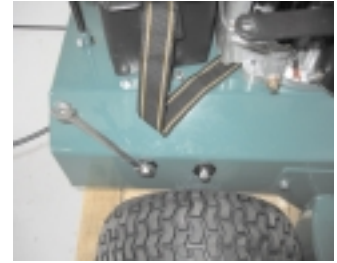

Figure 11-4
5. To assemble the shift rod (item 31) to the shift linkage (item 54), use the roll pin in the parts/literature bag. If you'll notice on the shift linkage, the hole is larger on one side than the other. It will be easier to start the roll pin from the larger side, forcing it through the shift rod and the hole on the other side of the shift linkage, using a hammer or large adjustable pliers.
7. Remove and retain for reuse handle mounting bolts and hex lock washers (Items 102 & 6) located just above the rear wheels on each side of mower (see figure 11-4).